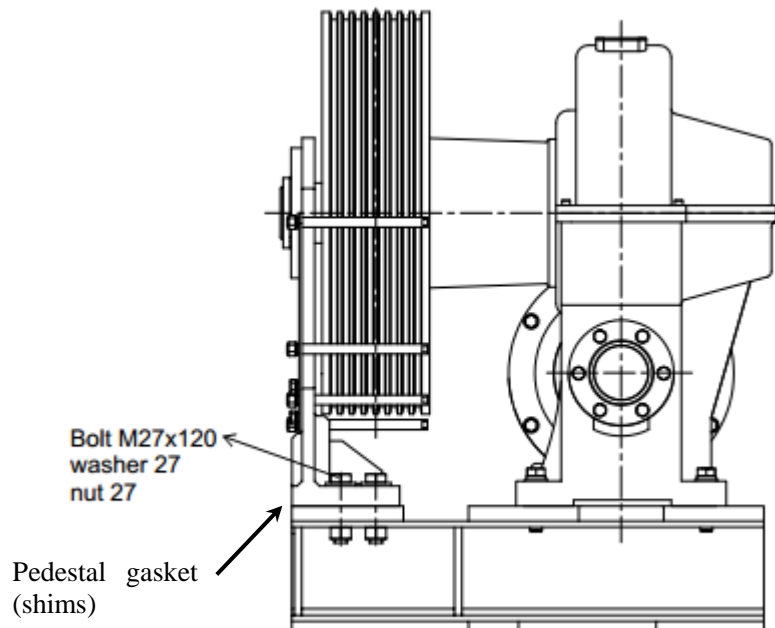

Figure 22 Remove the Pedestal bolts.
5. Remove the Pedestal Bolts M27x120, washer 27, and nut 27 using open end wrench 41mm. **Mark the Pedestal gasket (shim) location and number so they can be replaced in the same location and order.** See Figure 22.